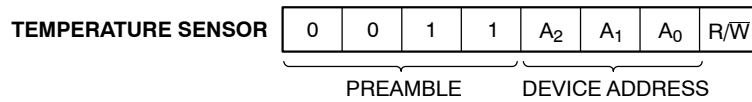

Figure 9. Slave Address Bits
The Master initiates data transfer by creating a START condition on the bus. The Master then broadcasts an 8-bit serial Slave address. The first 4 bits of the Slave address (the preamble) select the Temperature Sensor (TS preamble = 0011) as shown in Figure 9. The next 3 bits, A2, A1 and A0, select one of 8 possible TS Slave devices. The last bit,  $R/\overline{W}$ , specifies whether a Read (1) or Write (0) operation is being performed.